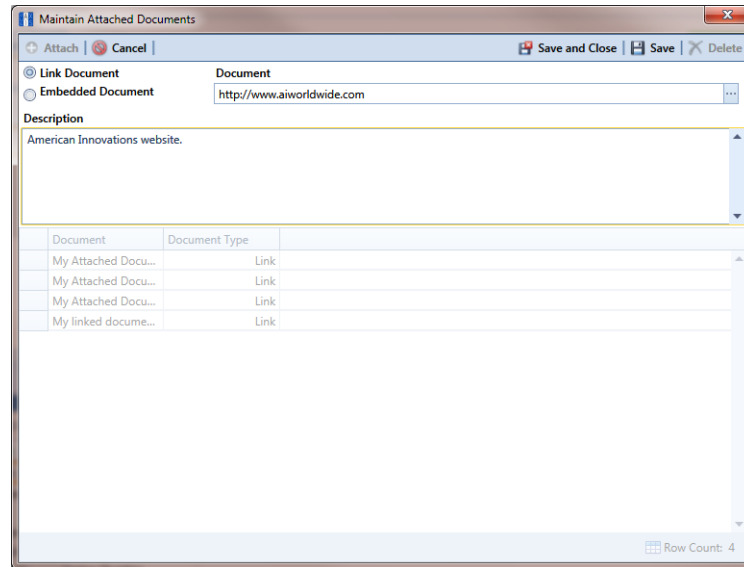

Figure 7-105. Maintain Attached Documents
- 8 If you selected *Link Document* in step 6 and want to add a link to a webpage on the Internet, follow these steps (Figure 7-105):